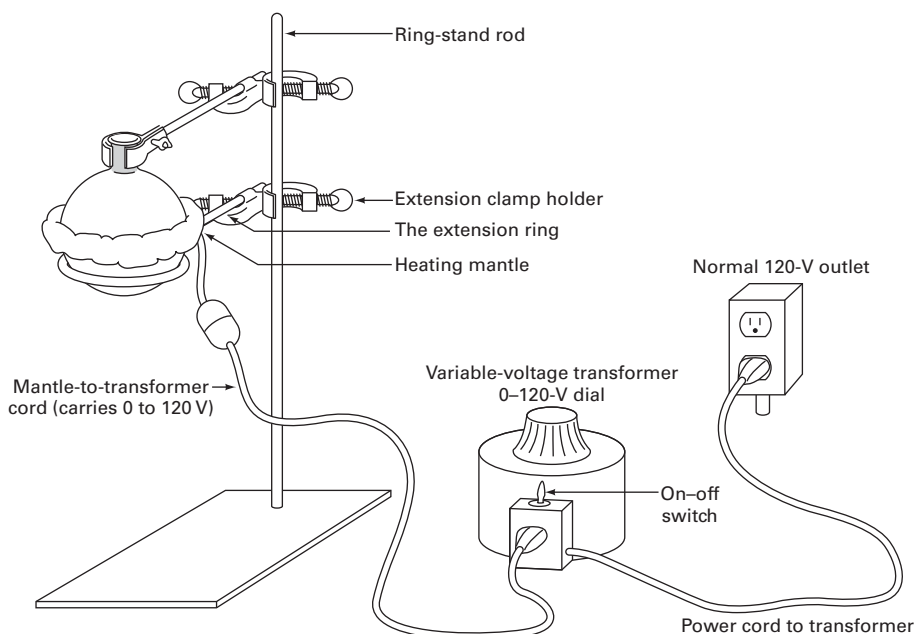

FIGURE 17.5 Round-bottom flask and mantle ready to go.
A very nice source of heat, the heating mantle takes some special equipment and finesse (Fig. 17.5).
2. **Traditional fiberglass heating mantle.** An electric heater wrapped in fiberglass insulation and cloth that looks vaguely like a catcher's mitt (Fig. 17.5).
Hint: When you set up a heating mantle to heat any flask, usually for **distillation** or **reflux**, put the mantle on an iron ring and keep it clamped a few inches above the bench top (Fig. 17.5). Then clamp the flask *at the neck* in case you have to remove the heat quickly. You can just unscrew the lower clamp and drop the mantle and iron ring.